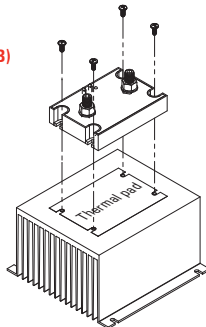

fig. 1 HDC Series SSC mounted on HS053 heat sink (A)
- ◆ Select adequate heat sink (see thermal derating curves). (B)
- ◆ HDC Series Contactor mounting slots have a diameter of 0.2 in (5.0 mm). Four screws are needed (not included) to mount the SSC onto heat sink (See fig. 1). Choose screw length considering the mounting surface and that HDC Series baseplate thickness is 0.125 in (3.2 mm).